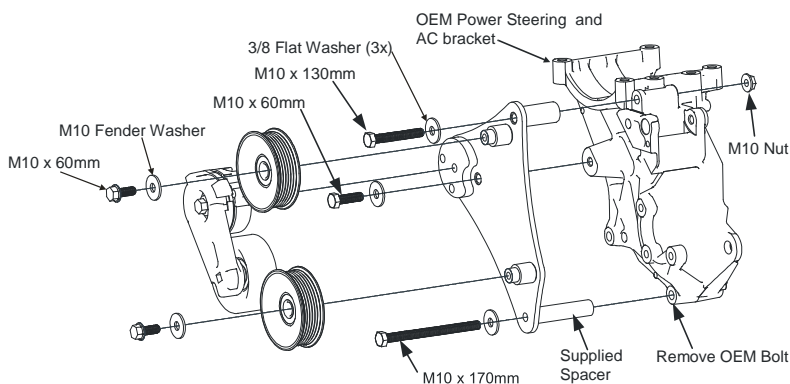

Figure 5.1
- ☐ Remove the 80mm long lower OEM power steering bracket bolt below the power steering pump pulley. Discard this bolt.(Figure 5.1)
- ☐ Install the tensioner bracket assembly with supplied bolts and spacer as shown. Apply loctite and torque bolts to specification.(Figure 5.1)
- ☐ Install the tensioner and idlers. (Figure 5.1)